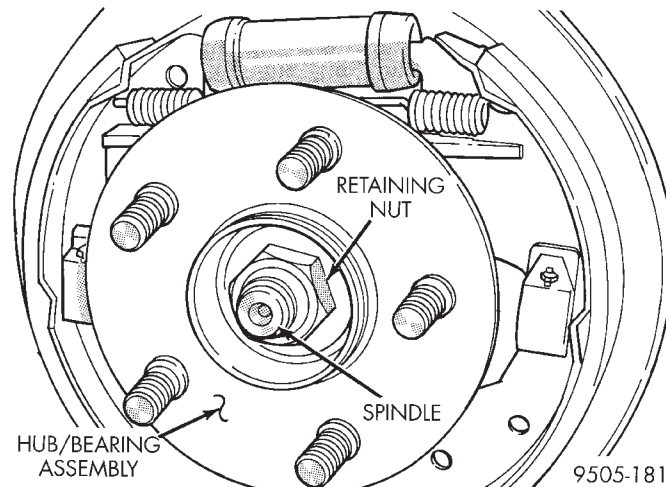

Fig. 83 Hub/Bearing Assembly Retaining Nut
(5) Remove hub/bearing assembly to rear spindle retaining nut (Fig. 83).
(1) Install the hub/bearing assembly on the knuckle. Then install a **NEW** rear hub/bearing assembly retaining nut (Fig. 83). Tighten the hub/bearing assembly retaining nut to a torque of 250 N·m (185 ft. lbs.).